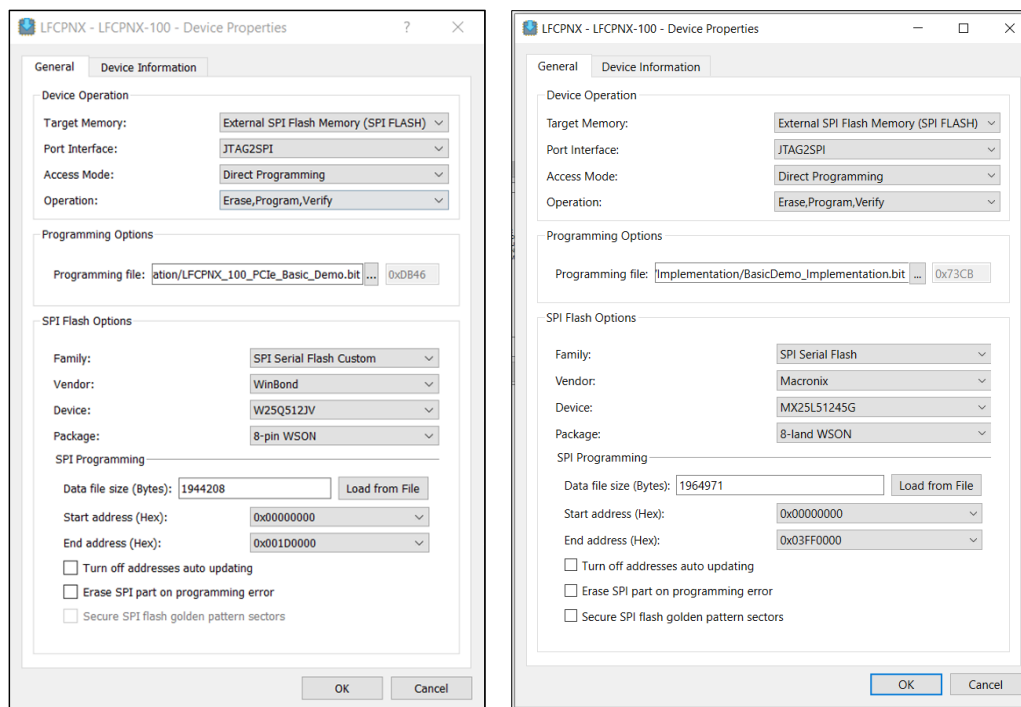

Figure 3.7. Device Properties Dialog for SPI Flash Programming Setting
6. Click on **Fast Configuration** from the **Operation** column (Figure 3.6). The **Device Properties** dialog box appears (Figure 3.7). Change the **Target Memory** settings using the drop-down menu. The device properties settings appear as shown in Figure 3.7.
7. Browse to choose the programming file **LFCPNX_100_PCl_e_Basic_Demo.bit** (Figure 3.7).